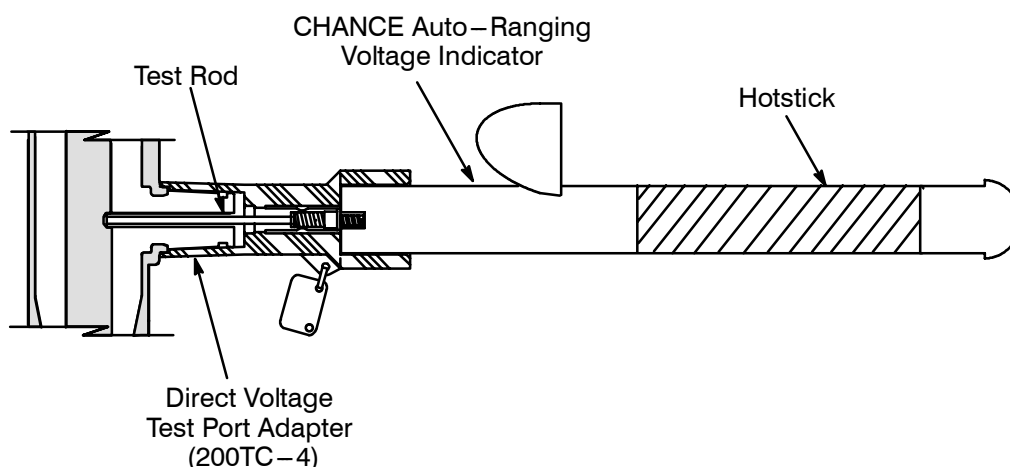

Figure 1
4. Using the CHANCE Voltage Indicator hotstick tool, insert test rod of the direct voltage test port adapter into elbow access port ensuring the direct voltage test port adapter is fully seated (See Figure 1).